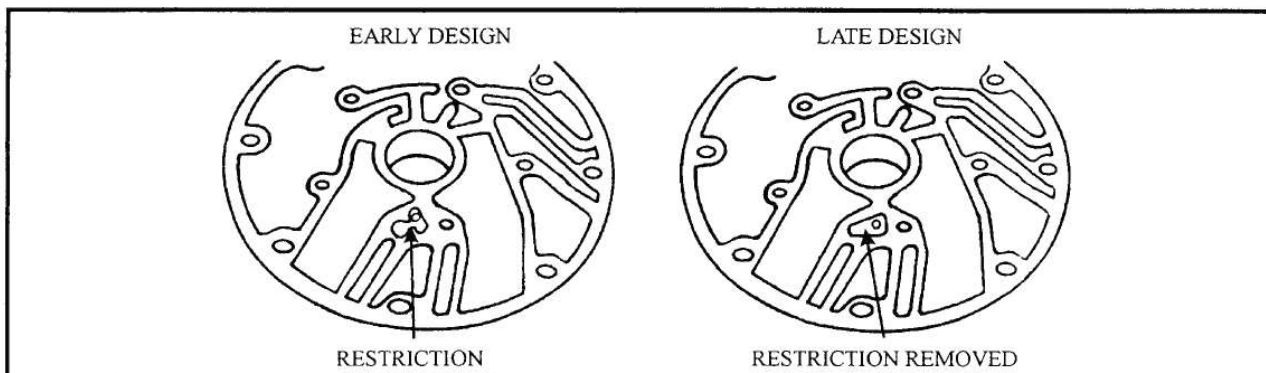
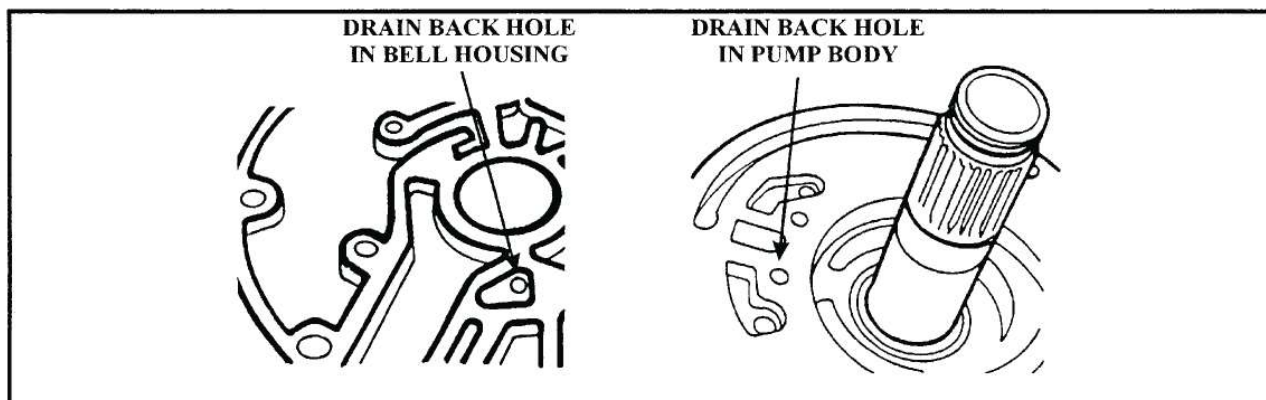

Figure 7
Figure 8
**BELL HOUSING** - Converter drain back passage area was enlarged for better flow to the drain back hole in the pump body (Refer to Figure 7). It is not necessary to replace the bell housing to cure this problem. Using a rotary file, or die grinder, remove material to allow "full flow" to the drain back hole (Refer to Figure 7). Also enlarge the existing drain back hole in both the bell housing and the pump body to 1/4" (Refer to Figure 8).